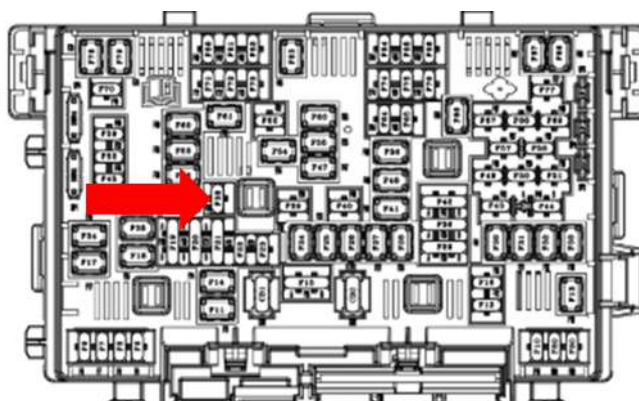

Fig. 3
6. Remove the PDC cover, locate and remove the #38 AGSM fuse Fig. 3.
16. Install the #38 AGSM fuse Fig. 3 and the PDC cover Fig. 2.